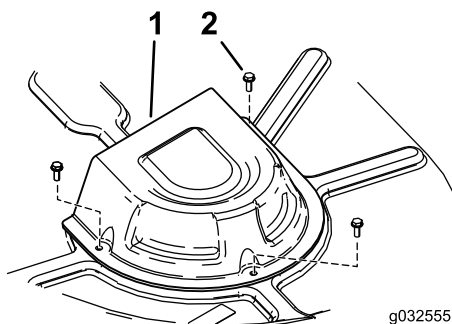

Figure 44
4. For machines with a 107 cm (42-inch) deck, remove the pulley covers (Figure 44).